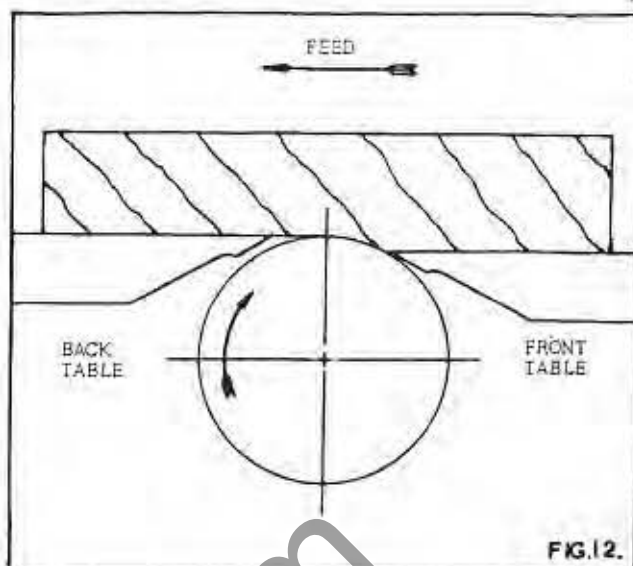

FIG. 12.
1. To obtain the best surface finish always check the direction of the grain, which should run with the cutter as in Fig. 12.